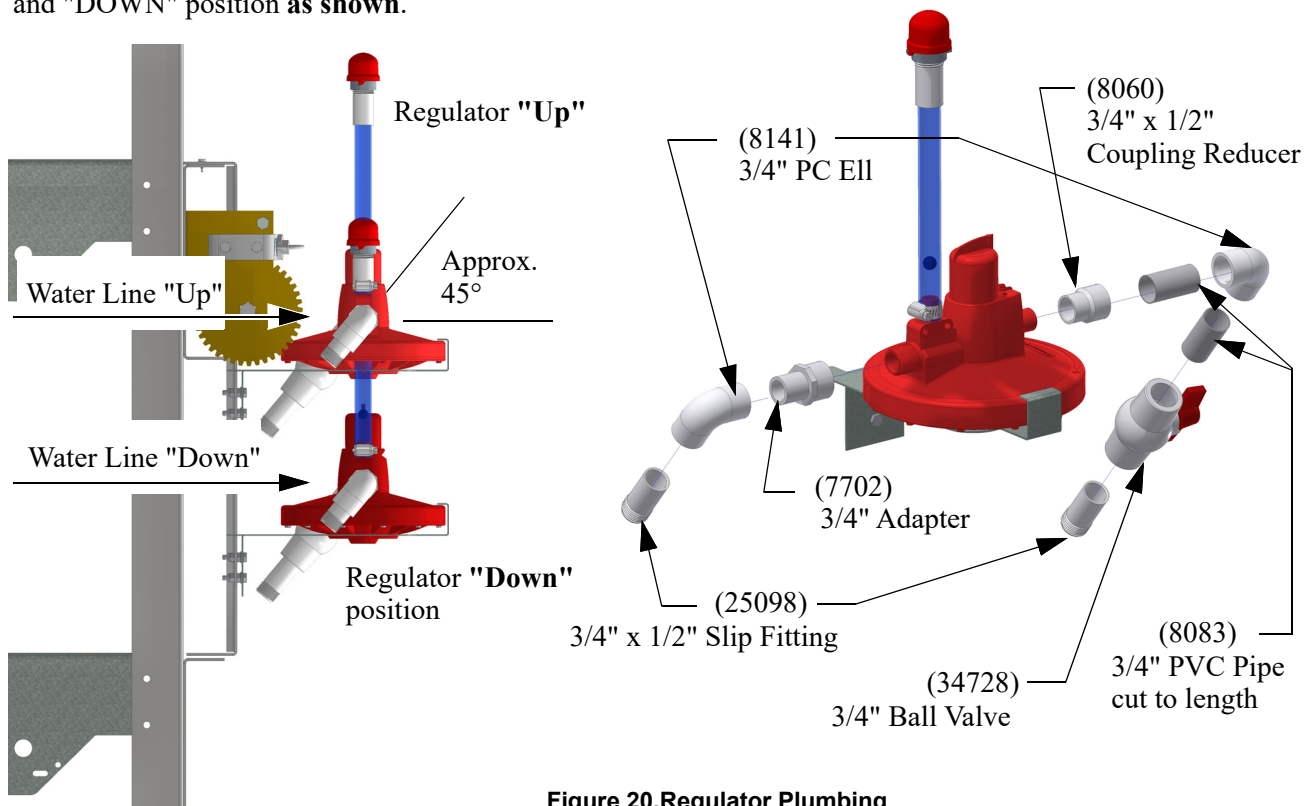

Figure 20.Regulator Plumbing
4. Use a 3/4" Adapter (7702), a 3/4" Ell (8141), and a Slip Fitting (25098) on the Out take side of the Regulator as shown. Angle down at a 45° to clear the Idler Back as shown. **Important: Remember that the Regulator Assembly will need to travel up, so plan accordingly (See Figure 20.)**
5. Use a 3/4" x 1/2 Reducer (8060), a 3/4" Ell (8141), a 3/4" Ball Valve (34728), a 3/4" x 1/2 Slip Fitting and two pieces of 3/4" PVC Pipe (8083) cut to required length as shown. Angle at approximately 45° to clear Idler Back. **Important: The Regulator will travel up, so plan accordingly (Figure 20.)**